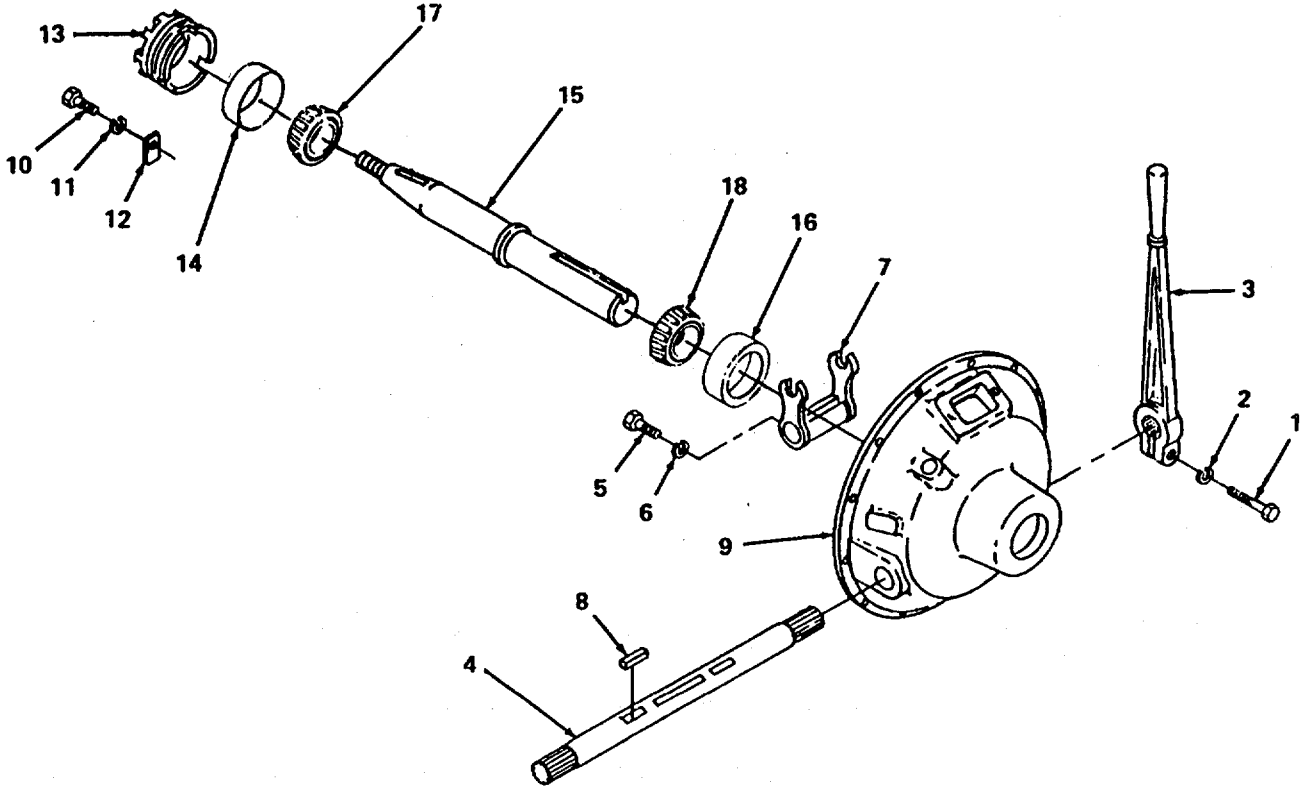

Figure 6-5. Shaft and Bearing Removal.
- (4) Remove PTO/Clutch shafts and bearings.
- (a) Loosen screw (1, figure 6-5) with lockwasher (2) and remove operating handle (3) from cross shaft (4).
- (b) Loosen two screws (5) with lockwashers (6) securing yoke (7) to cross shaft (4) until yoke is free to slide on shaft.
- (c) Slide yoke (7) left and right on cross shaft (4) to expose two woodruff keys (8) and remove keys.
- (d) Slide cross shaft (4) out of yoke (7) and housing (9).
- (e) Remove bearing retainer lock screw (10), lockwasher (11) and lock (12).
- (f) Rotate bearing retainer (13) counter-clockwise to remove retainer and bearing cup (14).